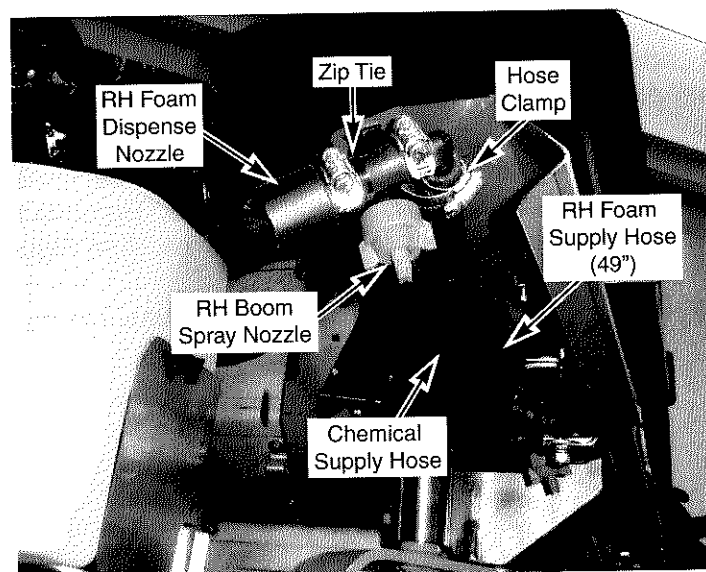

Figure 5. Install Foam Dispense Nozzle and Hose Assembly (RH Shown)
5. Attach one end of the hose cut to 49 inches in length in step 3 to the barb fitting on one (1) foam dispense nozzle supplied with this kit and secure with one (1) hose clamp provided. Making sure not to block the spray pattern of the chemical spray nozzle, attach the foam dispense nozzle and hose assembly to the right-hand boom spray nozzle and secure with a cable tie. Following the chemical supply hose, route the foam supply hose behind the sprayer boom assembly. See Figure 5.